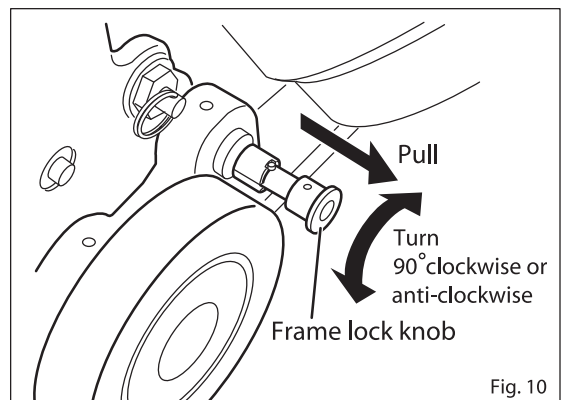

Fig. 10
## 2. Unlocking the Frame (Figs. 10 & 11)
(1) Pull the frame lock knob on the bottom left hand side of the motor and, at the same time, turn it 90° either clockwise or anti-clockwise. (Fig. 10)
(2) When the frame lock knob is protruding, the frame is unlocked. When transporting the unit, use the same process in reverse to lock the frame prior to transport.